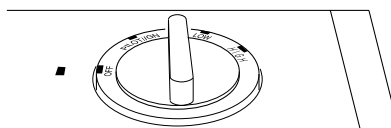

Figure 16 - Control Knob In The OFF Position (FB-10BA Shown)
- Press in and turn control knob clockwise  to the OFF position (see Figure 16).
- Wait five (5) minutes to clear out any gas. Then smell for gas, including near the floor. If you smell gas, **STOP!** Follow "B" in the safety information, column 1. If you don't smell gas, go to the next step.
- Press in control knob and turn counterclockwise  to the PILOT/IGN position. Keep control knob pressed in for five (5) seconds.